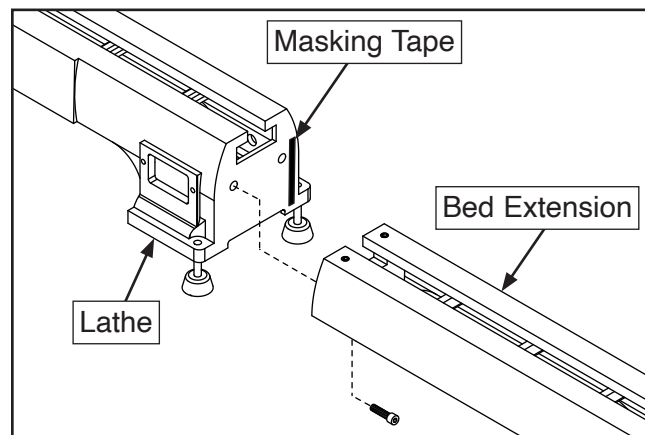

Figure 5. Shimming bed extension left.
- If bed extension is skewed *left* or *right*, use a vertical strip of masking tape along corresponding edge of lathe bed to make bed extension parallel with lathe bed (see **Figure 5**).